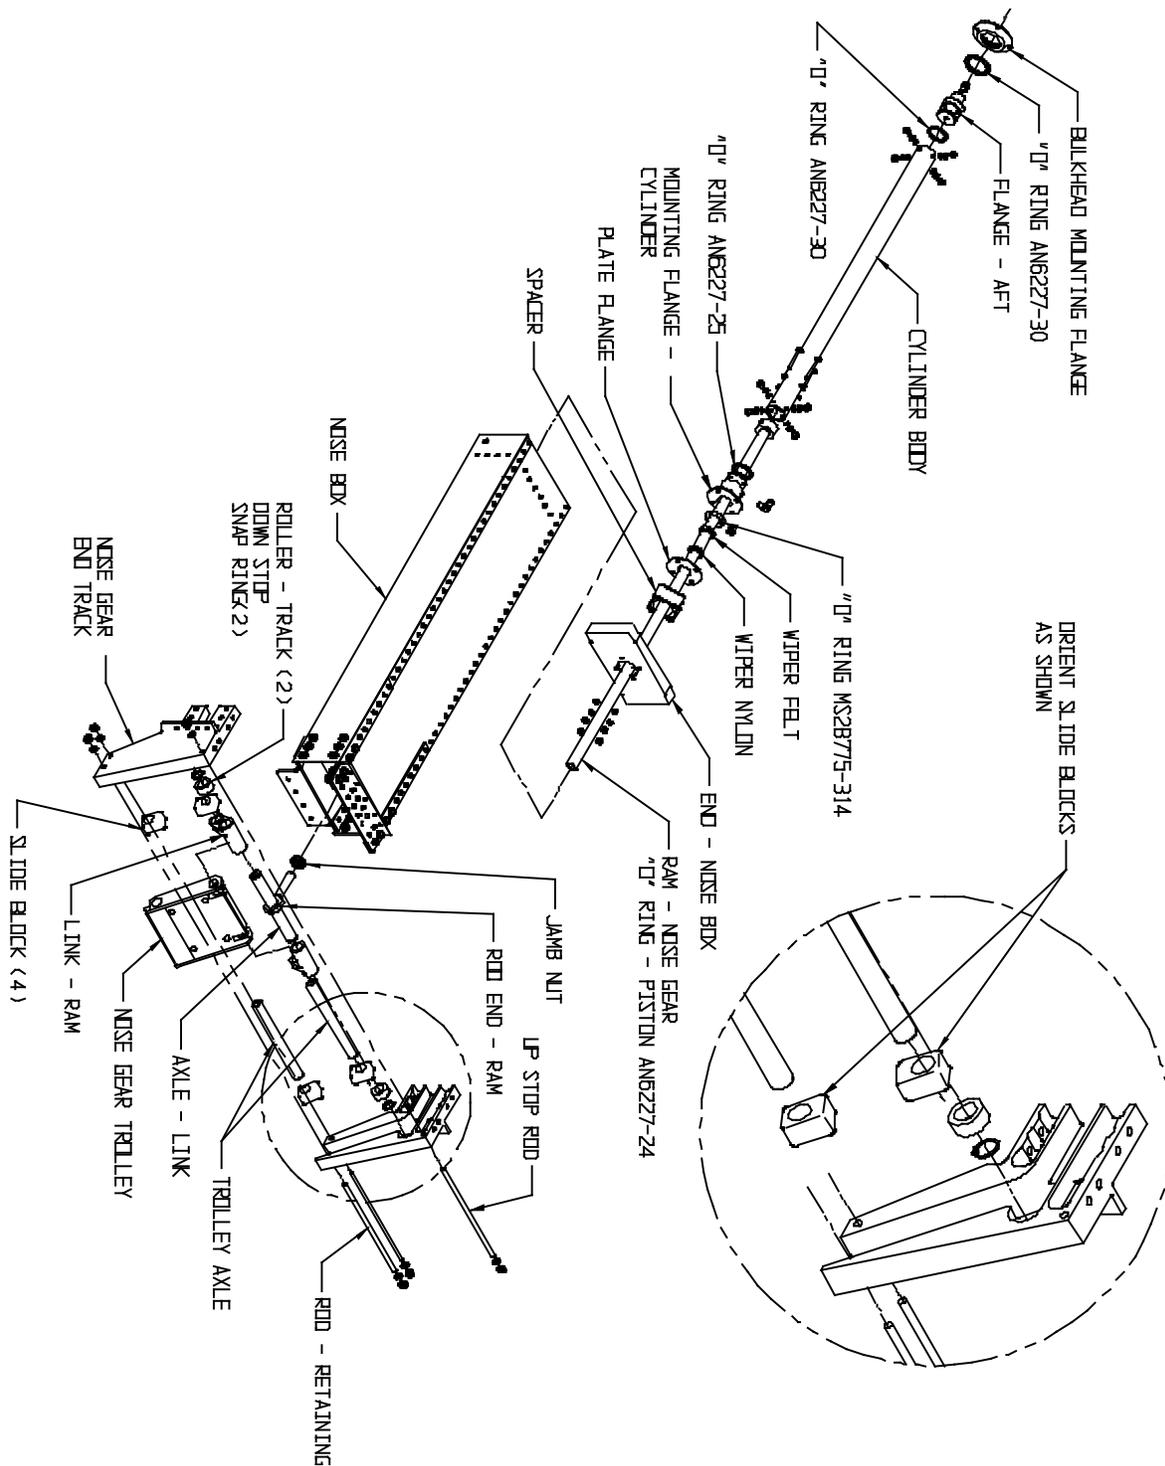

FIGURE 2.9 ASSEMBLY – NOSE GEAR BOX AND RETRACTION
The nose gear has an over-center down lock. Retraction occurs when pressure is applied to the forward face of the actuator piston and the carriage is drawn along the tracks in the nose box as shown in figure 2.9. Gear position light proximity switches are closed when the piston containing the magnetic material has reached either end of its travel.
The up stops nests in the up-stop bolt. See figure 2.9 and 2.10 for locations and assembly. Nose gear proximity switches are located on clips that are mounted on the outer cylinder body, one on each end. The most forward switch is for the gear down lights and most aft is for the gear up position lights. Set the proximity switch mounting clip along outer cylinder body to a position such that the light goes out when the over-center track is about 1/4 inch from bottomed position while traveling in the up direction. Lights should come on about 1/8 inch from the bottomed position while traveling in the down direction. The cylinder piston has a magnet that will activate the proximity switches.
Gear must be in down position. Unbolt the spring from the trolley. Relieve the pressure in system, place gear selector handle in neutral position (lever between up and down), and remove rear hydraulic line. Remove (4) bolts on forward end of cylinder. Drain fluid. Pull aft to expose internal piston rod. Loosen jamb nut on forward side of cylinder ram at rod end. Turn piston from aft side of nose box out of rod end. Push on trolley assembly to unlock and remove the bottom thru-bolts. Slide out of nose box. **Note:** On installation, adjust piston so it bottoms out on aft flange at the same time as the bearings when nose gear is in locked position. Also note orientation of trolley blocks. The side with the most edge distance from hole is to go toward each other on inside of trolley. (See figure 2.9 for details).